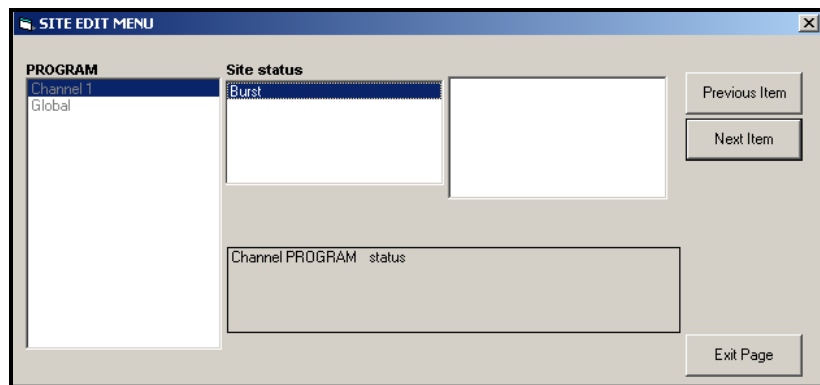

Figure C-13: Status Option in the Channel Menu
2. Highlight and double-click on the Status option in the center pane. The window now appears similar to Figure C-13 below.